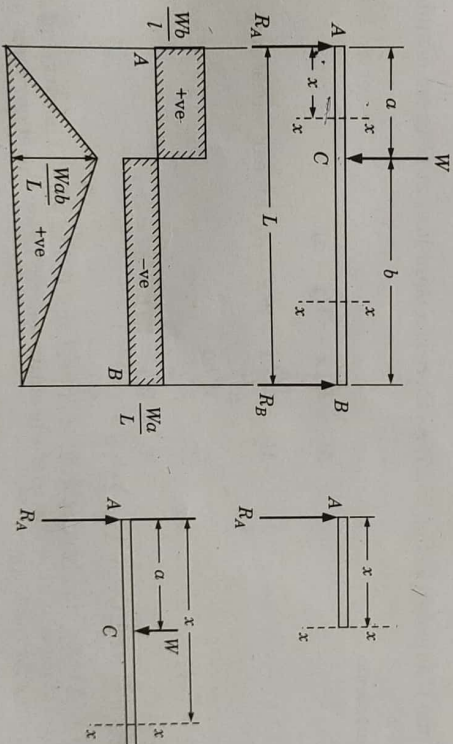

Fig. 25.17
S.F. diagram is as shown in Fig. 25.17. As there is a point load at  $C$ , there is sudden change in shear force.
B.M. diagram is as shown in Fig. 25.17.